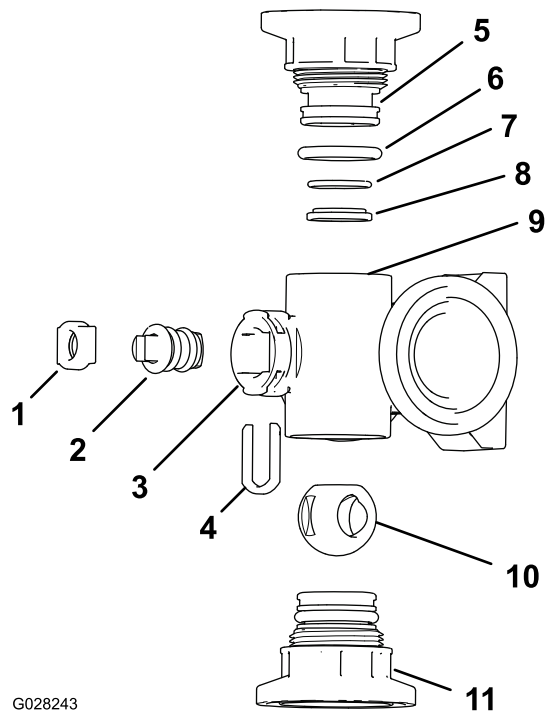

Figure 108
2. Remove the 2 end-cap-fitting assemblies from each end of the manifold body (Figure 108 and Figure 109).
- Remove the stem retainer from the slots in the stem port in the manifold (Figure 108 and Figure 109).
- Remove the stem retainer and valve stem seat from the manifold (Figure 108 and Figure 109).
- Reach into the manifold body and remove the valve-stem assembly (Figure 108 and Figure 109).
- Check the condition of the outlet fitting O-rings (section valve manifold only), end cap O-rings, back seating O-rings, ball seat for damage or wear (Figure 108 and Figure 109).
- Apply grease to the valve stem and insert it into the valve stem seat (Figure 108 and Figure 109).
- Install the valve stem and seat into the manifold and secure the stem and seat with the stem retainer (Figure 108 and Figure 109).
- Ensure that the back seating O-ring and the ball seat are aligned and seated into the end-cap fitting (Figure 108 and Figure 109).
- Install the end-cap fitting assembly onto the manifold body until the flange of the end-cap fitting touches the manifold body (Figure 108 and Figure 109), then turn the end-cap fitting an additional 1/8 to 1/4 turn.